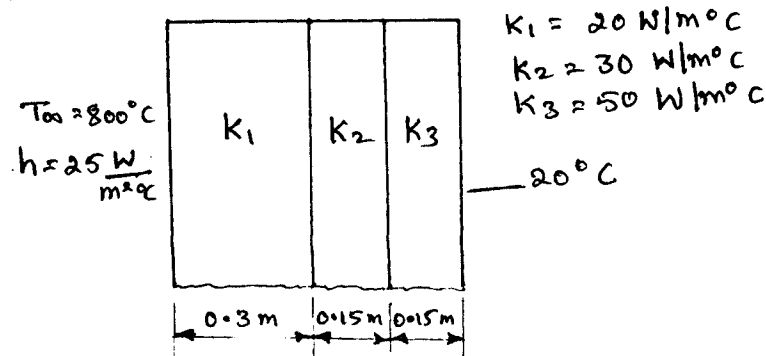

Fig. Q8(b)
- b. A composite wall consists of three materials as shown in the Fig. Q8(b). The outer surface temperature is 20°C . Convective heat transfer takes place on the inner surface with $T_\infty = 800^\circ\text{C}$ and $h = 25 \text{ W/m}^2\text{ }^\circ\text{C}$. Determine the temperature distribution in the inner wall. (14 Marks)